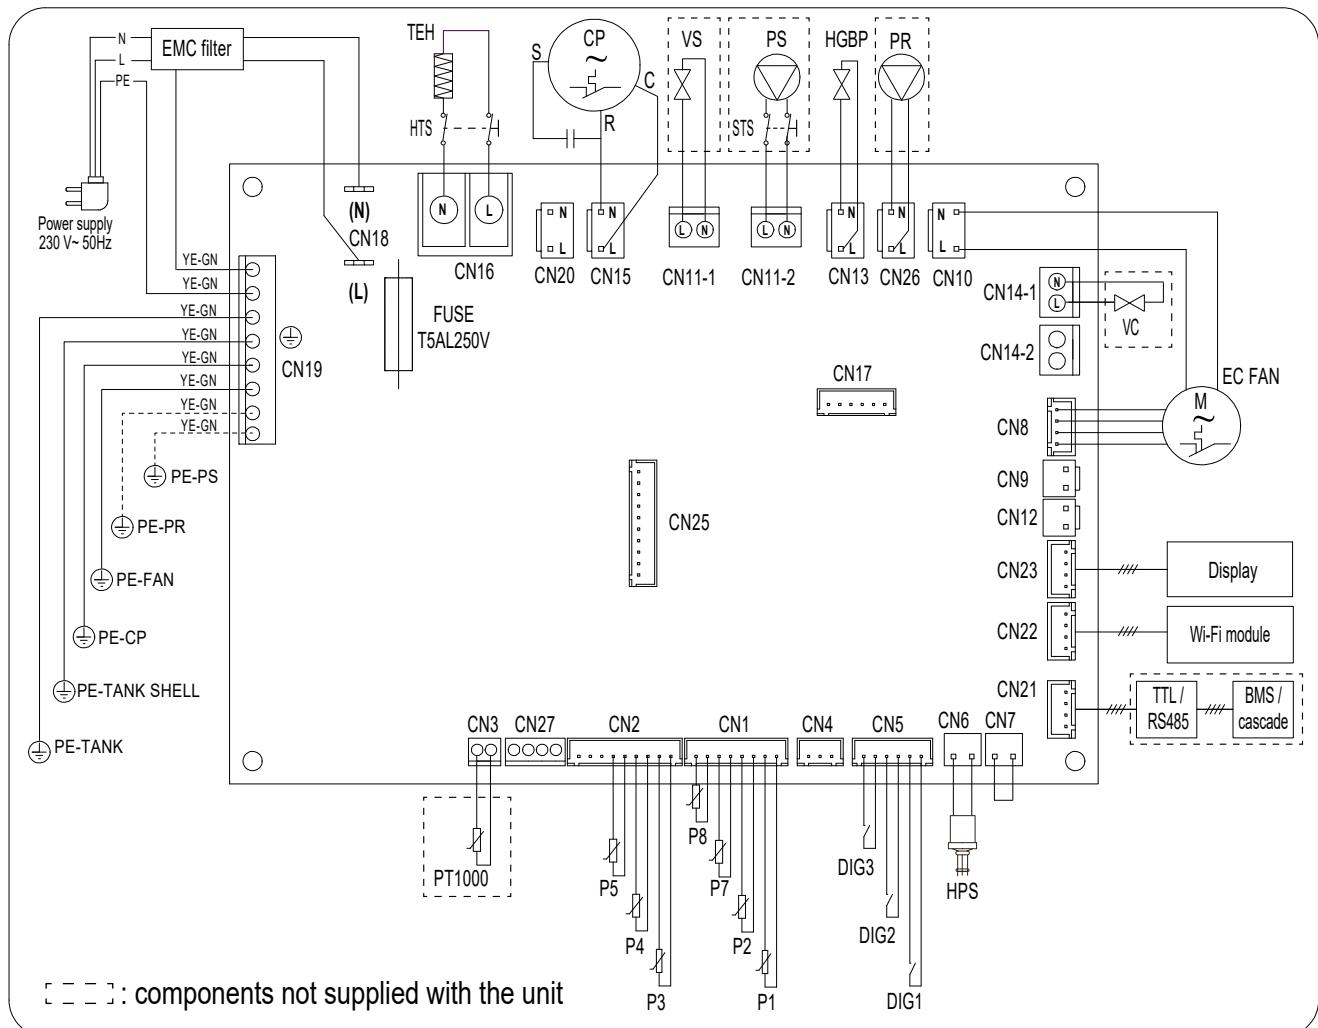

fig. 72 - Wiring diagram of the equipment
- 1) The recirculation pump (part.16) must be connected to terminal CN26 of the master motherboard (ref. "fig. 72 - Wiring diagram of the equipment" on page 123).
- 2) Fit a normally open solenoid valve (part. 19) for each unit in the cascade. The valve must be connected to terminal CN14-1 (ref. "fig. 72 - Wiring diagram of the equipment" on page 1234) of the mother board of each unit.
- 2) Fit a normally open solenoid valve (part. 19) for each unit in the cascade. The valve must be connected to terminal CN14-1 (ref. "fig. 72 - Wiring diagram of the equipment" on page 123) of the mother board of each unit.